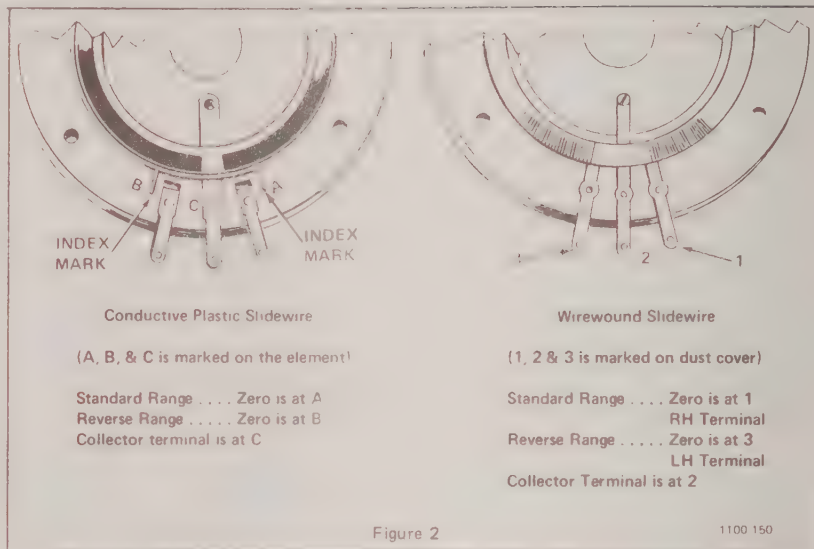

Figure 2
4. Refer to warning at beginning of this section regarding plastic slidewires. Refer to Figure 2 and connect one ohmmeter lead to collector terminal of slidewire and one lead to terminal designated as zero percent of range span.
5. With conductive plastic slidewire, align contact wiper with index mark at "A" or "B" on slidewire moulding. See Figure 2. (At "A" for standard range; at "B" for reverse range.)